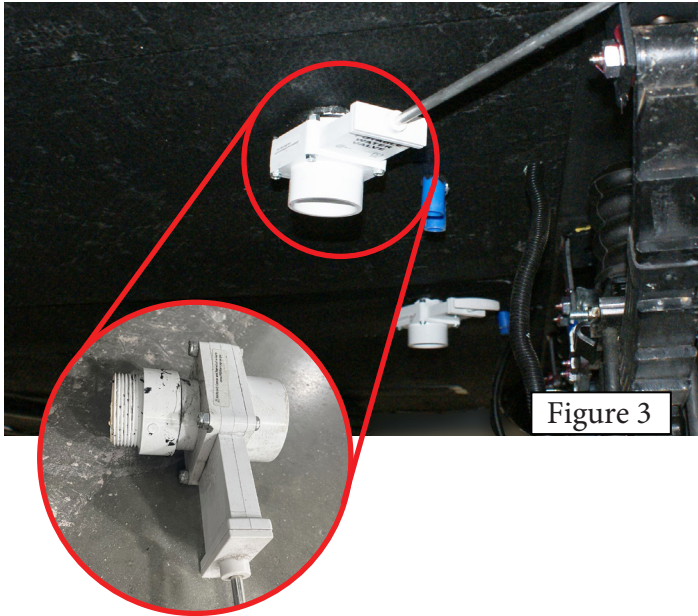

Figure 3
4. Drain fresh water tanks. Thereafter, remove the fresh water tank drain valves by unscrewing them from the tanks (Figure 3).